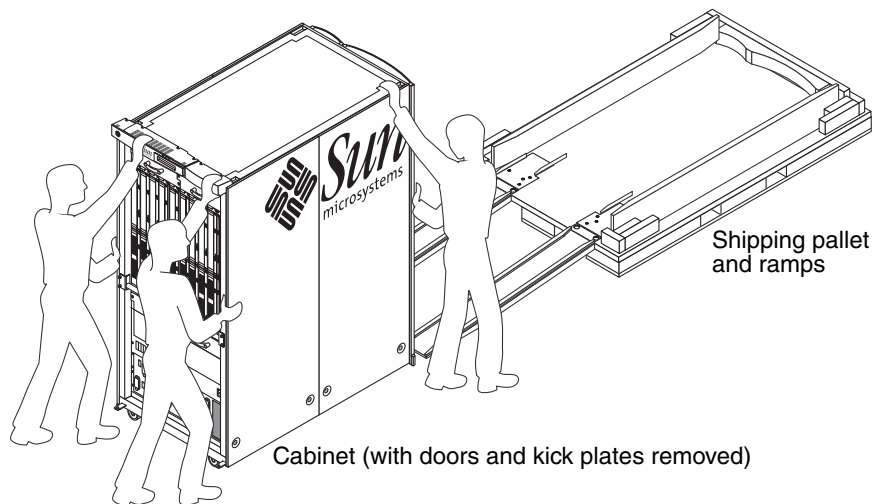

FIGURE 6-3 Installed Ramps on Pallet Deck
- b. Align the cabinet wheels at the leading edge of the two ramps (FIGURE 6-3).